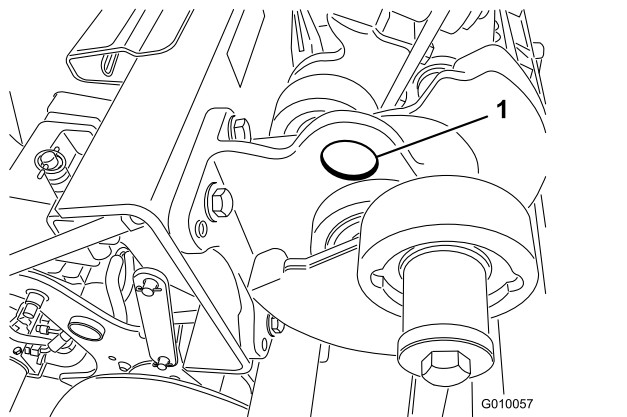

Figure 40
**Note:** If available, use a hoist to lift the rear of the machine. Use the eyelets in the coring head bearing housings as hoist attachment points (Figure 40).